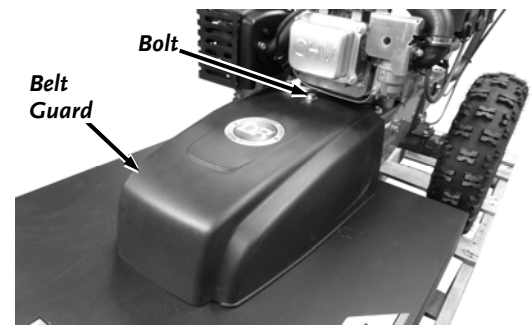

Figure 27
1. Remove the Belt Guard by unscrewing the Bolt using a 9/16" Wrench (**Figure 27**).